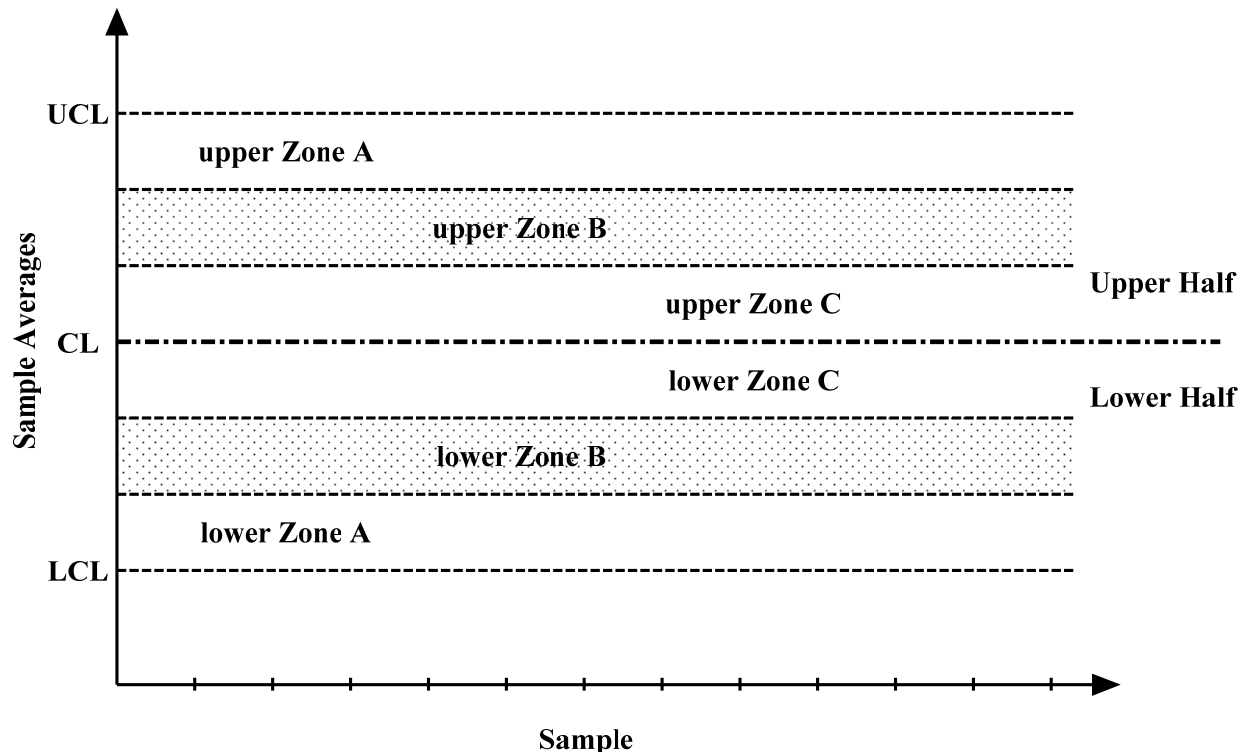
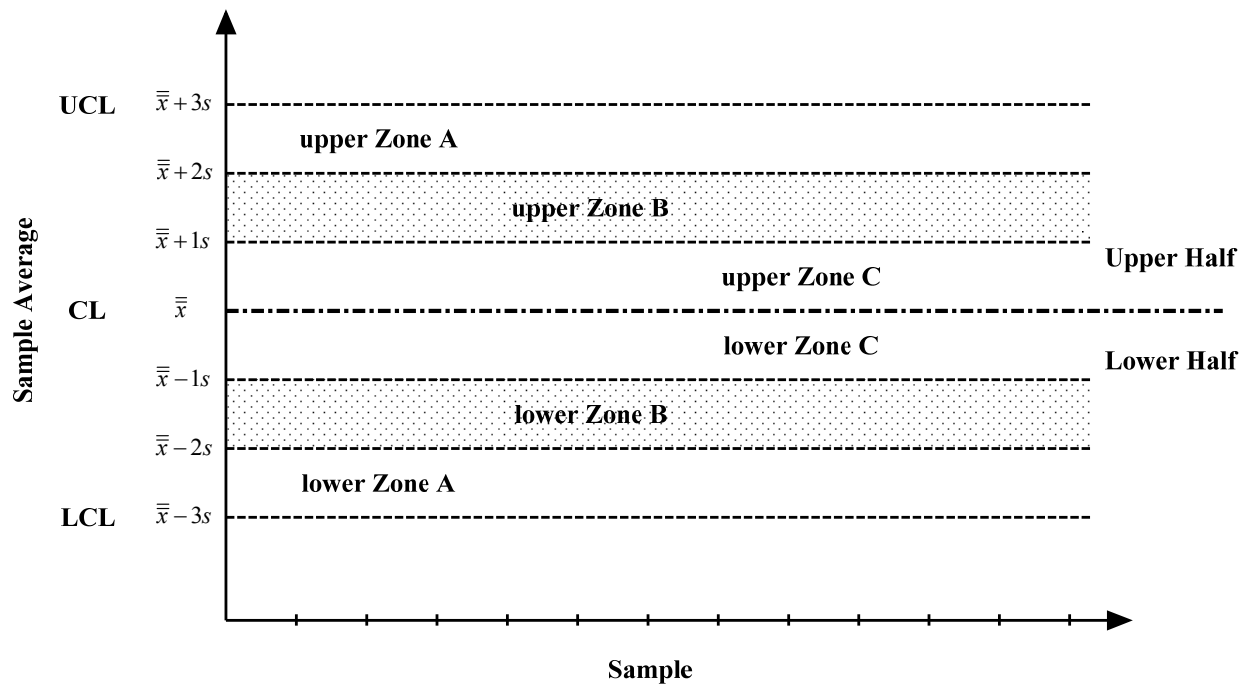

Figure 16.3.2: A general example of a \bar{x} -Chart
Figure 16.3.3: A general example of a \bar{x} -Chart with the formulas for values
Figure 16.3.2 illustrates the Center Line ($\bar{\bar{x}}$), the Upper Control Limit ($\bar{\bar{x}} + 3s$) and the Lower Control Limit ($\bar{\bar{x}} - 3s$). So how are the six zones formed? By calculating $\bar{\bar{x}} \pm 1s$ and $\bar{\bar{x}} \pm 2s$.
With this information, we can add more information to Figure 16.3.2. Figure 16.3.3 is a more detailed illustration of a general a \bar{x} -Chart
Table 16.3.1 is an example of a class set of data collected under optimal conditions. We already have a good idea of what the values are for the Upper Control Limit (UCL), the Center Line (CL), and the Lower Control Limit (LCL) as well as $\bar{x} \pm 1s$ and $\bar{x} \pm 2s$ from Figure 16.3.3. Recall this \bar{x} -Chart was given earlier with very little explanation as to why these values set standards to measure natural variability between sample averages.